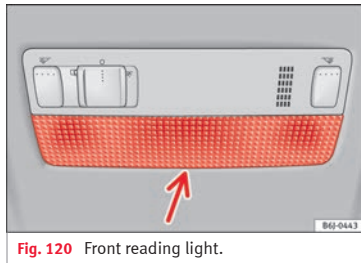

Fig. 120 Front reading light.
- Insert a fine screwdriver between the casing and the glass » **Fig. 120**.